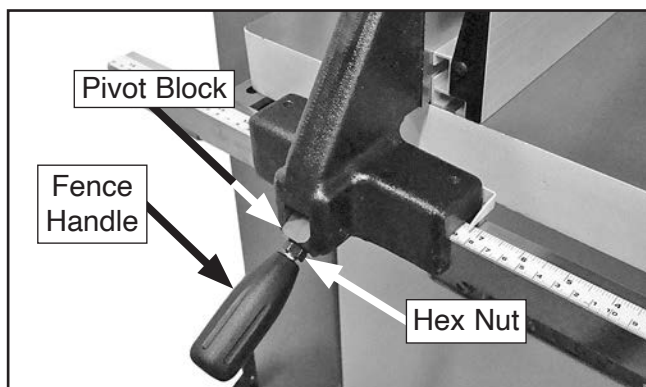

Figure 2. Fence handle components.
4. Tighten hex nut on fence handle against fence pivot block (see **Figure 2**).